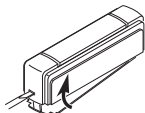

Figure 1
- **Screw Mounting:** To mount with screws, remove back of case by pushing in tab on bottom with a small screwdriver (see Figure 1). *Note:* Remove material in screw holes (if needed) before mounting with screws. Attach back of case to door jamb or wall (see Figure 4). Snap front of push button on.